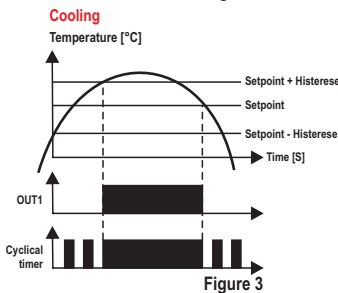

Figure 3
- **Cyclical timer output is on whenever stage 1 output is on (F22=4):** in this operating mode timer cycles according to the times configured in F20 ($\overline{[C D n]}$) and F21 ($\overline{[C D F F]}$), and **stage 3** stops cycling and keeps the output switched on, whenever **stage 1** output switches on, as shown in Figure 3.